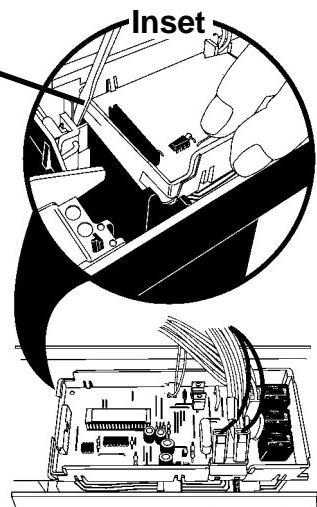

Fig. 3-3
2. Use a flat bladed screwdriver to depress the holding tabs at the left end of the control board assembly while pulling up. (*Fig. 3-3, Inset*)